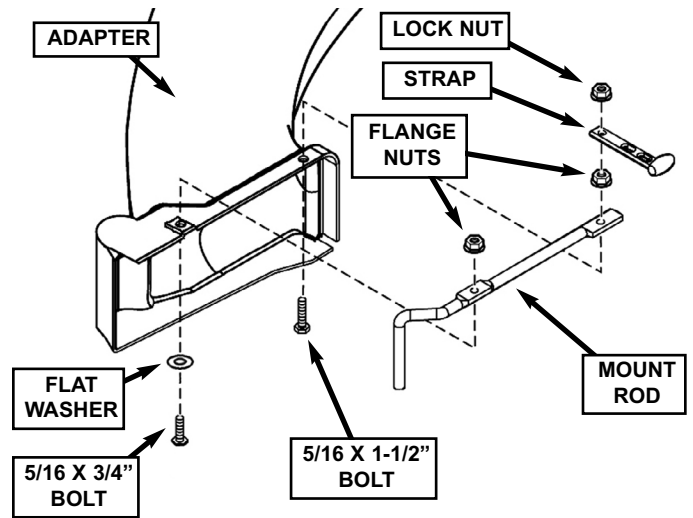

FIGURE 6
a. Insert one 5/16 x 3/4" hex bolt, fitted with one 5/16 flat washer, up through the front hole in the adapter, and one 5/16 x 1-1/2" hex flange bolt up through the rear hole. See Figure 6.
b. Install the mount rod onto the bolt threads, securing with two 5/16-18 flange nuts, tightening securely. See Figure 6.
c. Install the rear of the strap onto the thread of the rear bolt, and secure the strap with a 5/16-18 hex center lock nut. See Figure 6. **NOTE:** Do not overtighten the lock nut.